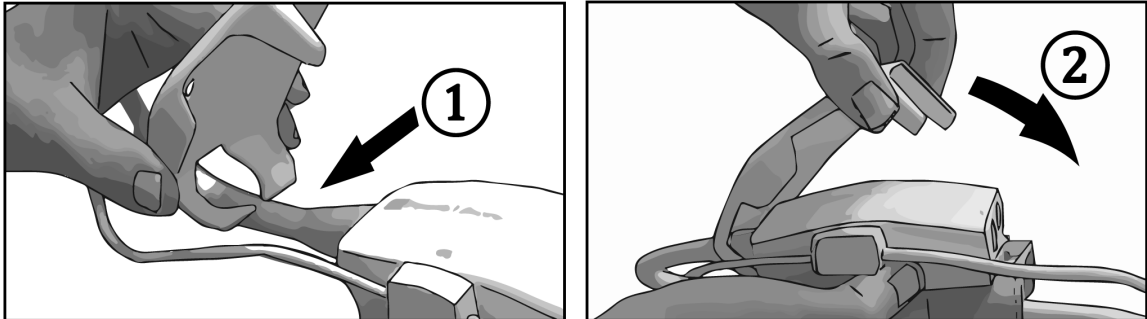

Figure B-1: Applying pressure controller cover
2. Place the pressure controller cover's back mounting notch around the pressure controller cable. See step 1 in Figure B-1 on page 175.
3. Snap the pressure controller cover over the pressure controller, making sure that the pressure controller cover does not interfere with the heart reference sensor (HRS) connection. See step 2 in Figure B-1 on page 175.